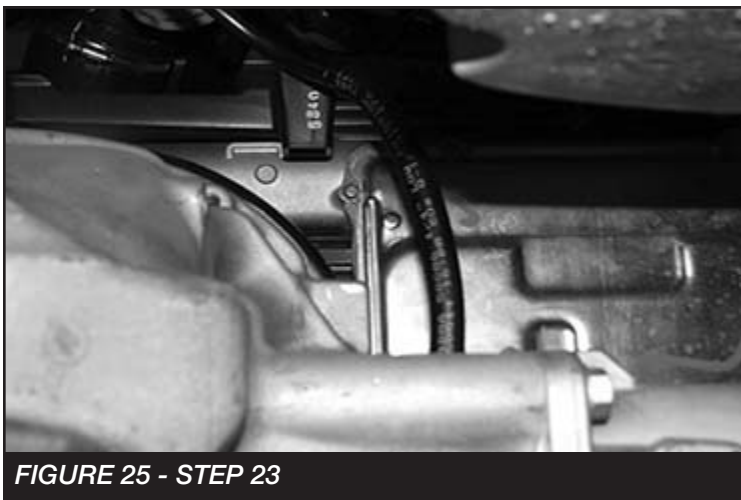

FIGURE 25 - STEP 23
23. Install the supplied 4" hose to the factory differential vent tube and back on to the differential. **SEE FIGURE 25**